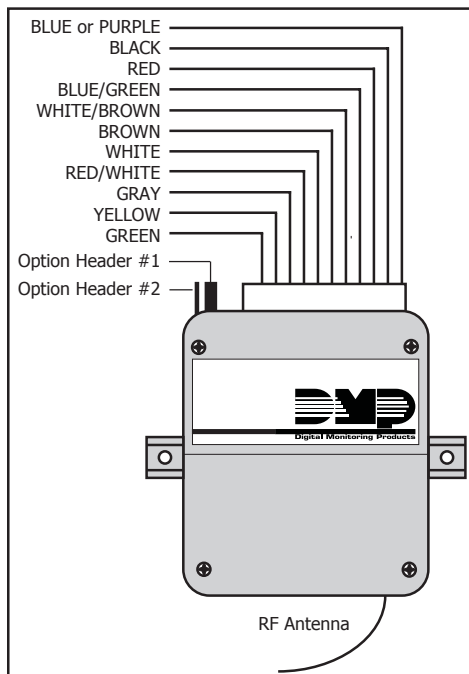

Figure 2: Model 570 RF Receiver
Connect the 570 Receiver harness Red, Yellow, Green, and Black wires to the panel keypad bus. The panel connections are marked RED (7), YEL (8), GRN (9), and BLK (10) and correspond to the same color wires as the receiver harness. See Figures 2 and 3.
The single user code is added by pressing and **holding** the receiver programming button (see Figure 2). The receiver programming LED turns on for three seconds and then turns off. When the LED turns off, release the programming button and the LED flashes indicating user code programming mode is enabled. While the programming LED is flashing, enter the 4-digit user code on the keypad. After the fourth digit is entered, the LED turns off indicating the user code is learned.